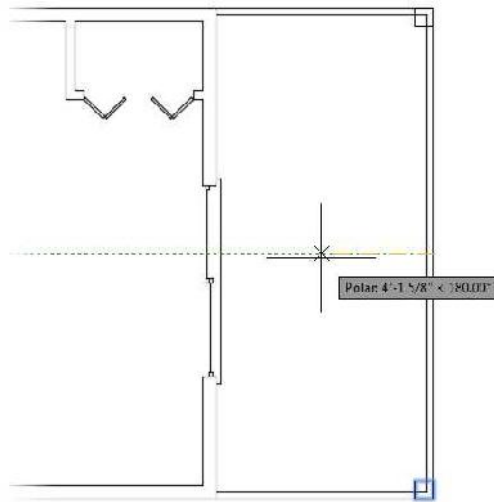

FIGURE 5.16: The first deck posts are in place.
5. Move the cursor directly to the left or right, as shown in Figure 5.16, to mirror the post. Then do the following: